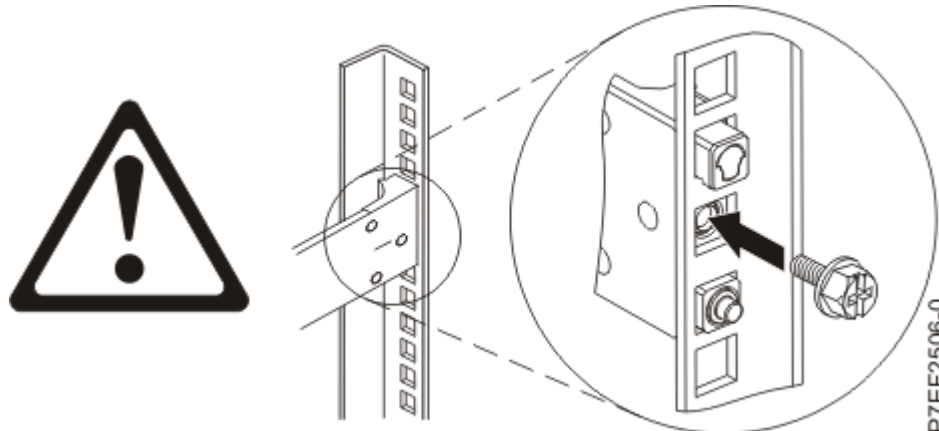

Figure 4. Reinstalling the screw
4. Reinstall the screw that was removed in step “2” on page 4, as shown in Figure 4 on page 5.